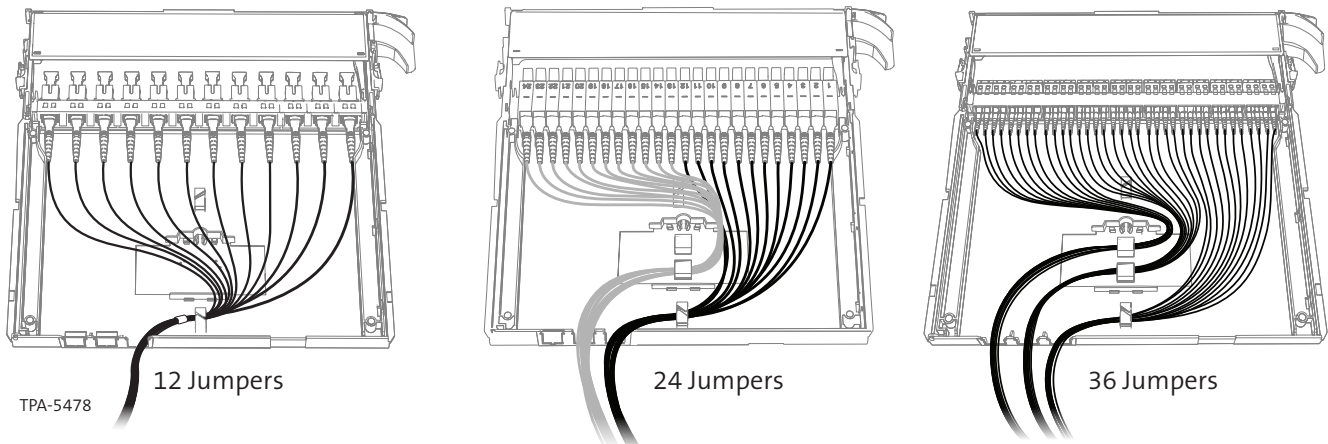

Figure 2
Step 3: Pass the first 12 jumpers through the first guide (Figure 2).
Step 6: Repeat Steps 1 through 5 for additional groups of 12 jumpers as shown in Figure 2.